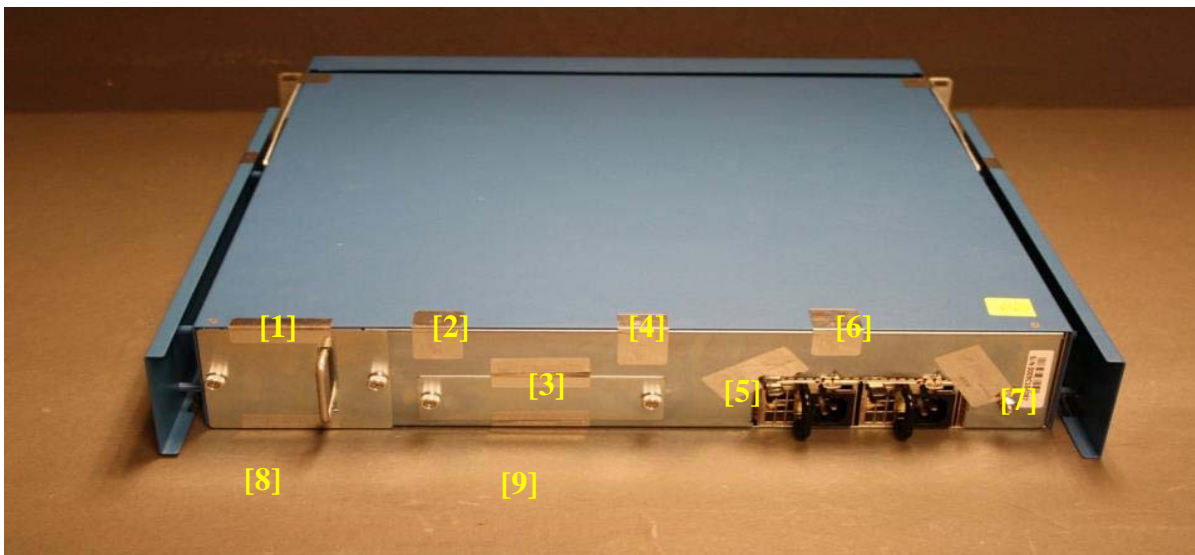

Figure 45 - PA-5000 Series Rear Tamper Seal Placement (9) with opacity shields
Refer to Appendix H for instructions on installation of the tamper seals and opacity shields for the PA-5000 series. The locations of the seventeen (17) tamper-evident seals implemented on the PA-5000 Series modules are shown in Figure 45 through Figure 47.